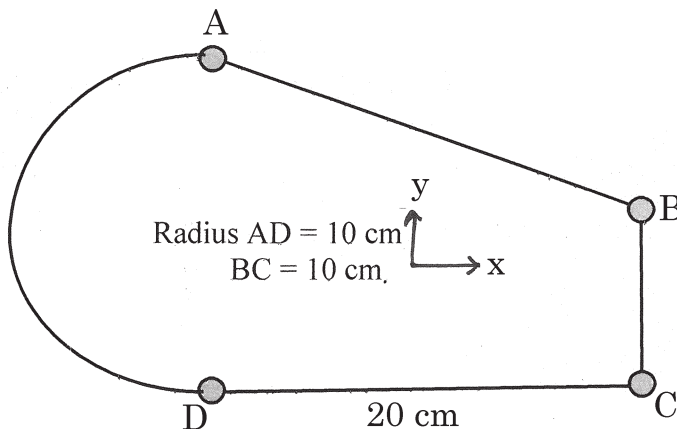

Figure 2
- b) The webs of the section indicated in Figure 2 are ineffective in bending A, B, C, D = 2 cm^2 . Determine the bending stresses in the flanges A, B, C and D when the section is subject to bending moment $M_x = 1500 \text{ Nm}$, $BC = 10 \text{ cm}$.
13. a) The section indicated in Figure 2 is subject to a vertical shear force 1.2 kN acting through the shear centre. Obtain and plot the resulting shear flow pattern. $A, B, C, D = 2$ cm². Find the horizontal distance between the shear center and point D.